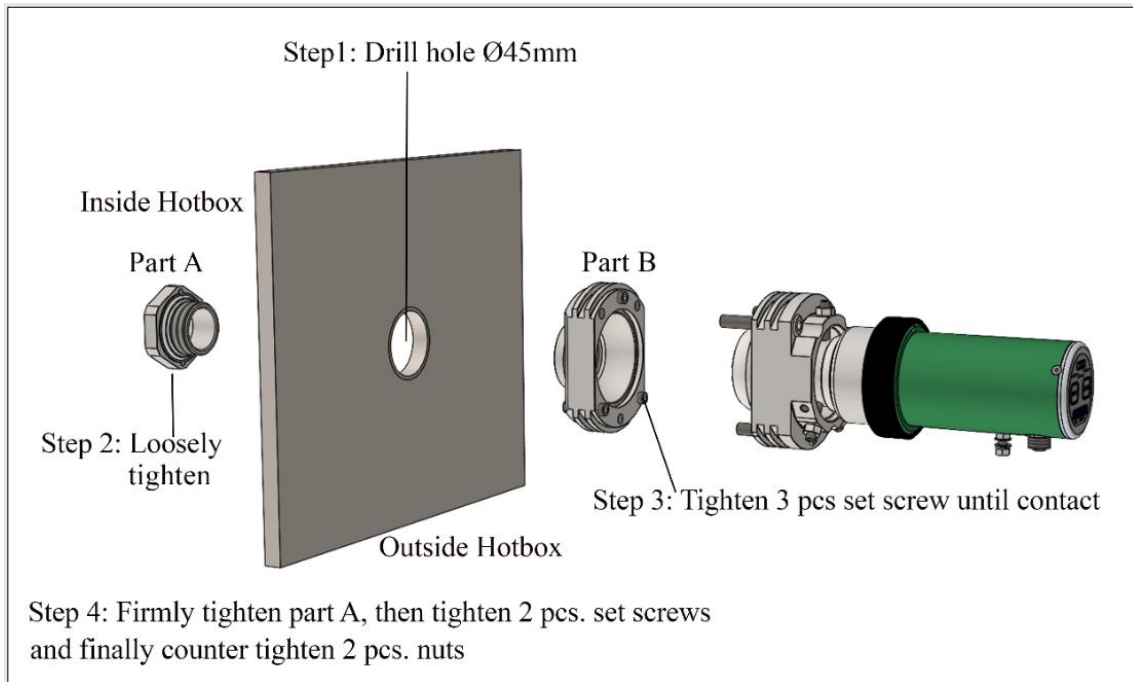
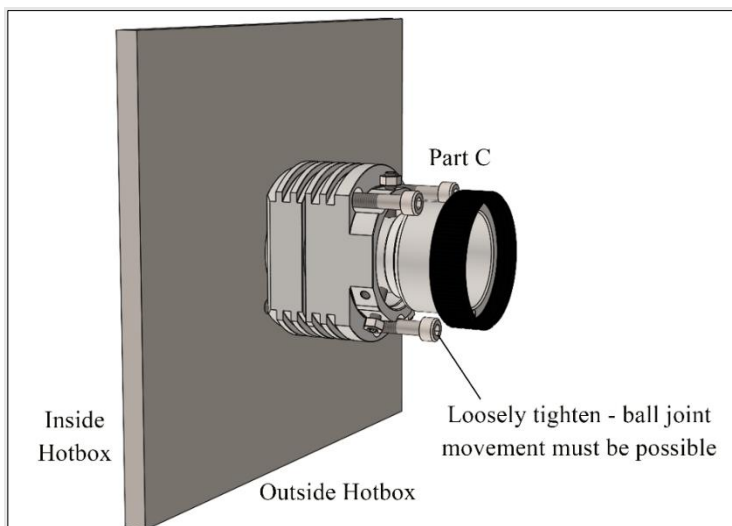

Figure 5-3: Installation of Transceiver – Mount the Alignment Bracket
Figure 5-4: Installation of Transceiver - Remount Part C to Part B
- Mount the alignment bracket following Figure 5-3 & Figure 5-4.